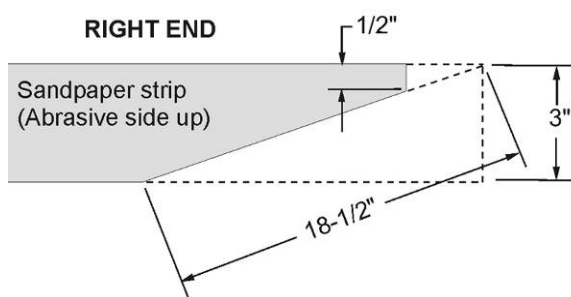
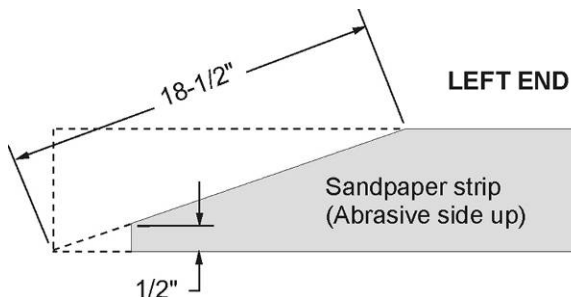

Figure 9
Figure 10
4. Mark and cut a taper at the right end of the abrasive strip (Fig. 9). Because the tapered end should use all of the recess at the right side of the drum, its end must be trimmed back leaving an edge of about 1/2 inch, as shown. Now trim the left side of the abrasive paper in a similar manner (Fig. 10).